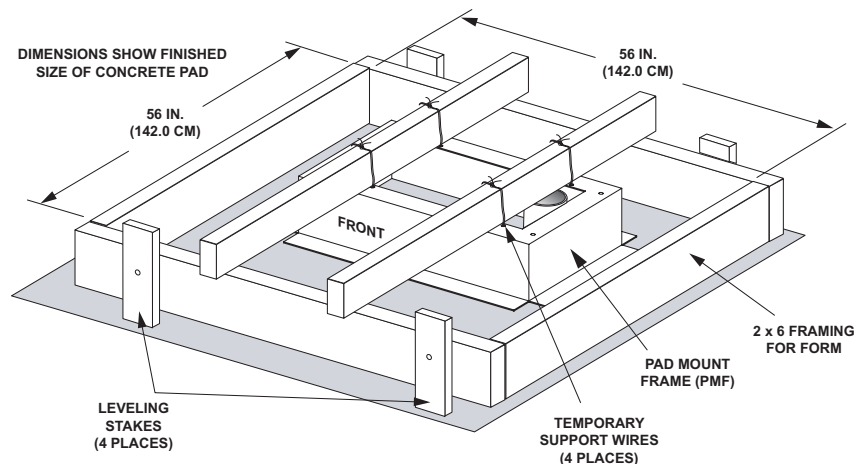

Figure 14. Concrete Pad Framing
- Build a wood form for the concrete pad using 2 x 6 framing lumber as shown in Figure 14.
Note: Use temporary top framing to keep the top surface of the PMF flush and level with the top of the concrete pad (see Figure 14).